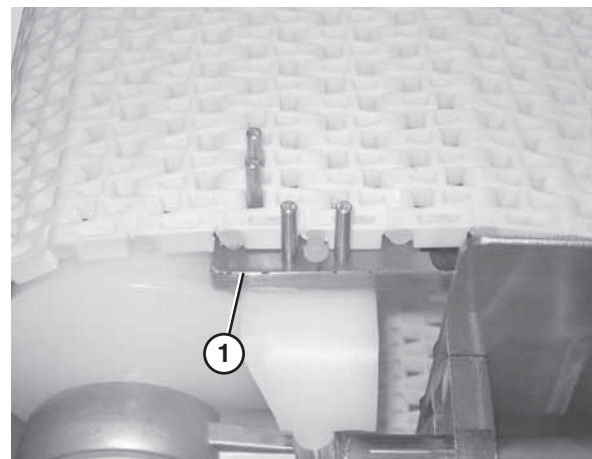

Figure 61
2. Secure the retaining head side of the belt using the belt removal tool (Figure 61, item 1).